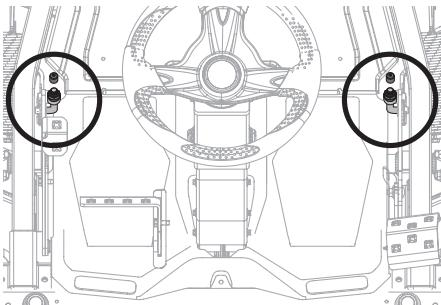

Figure 39
- Remove the end cap on both front deck height adjust rods and save for later reinstallation (Figure 39).
- Rotate both front nuts clockwise to raise the front deck pitch or counter-clockwise to lower the front deck pitch, depending on the needed adjustment. Adjust each nut equally (Figure 39).